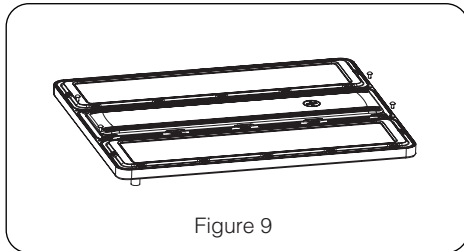

Figure 9
Step1. Remove the screw hole plugs on the luminaire.(Figure 9)